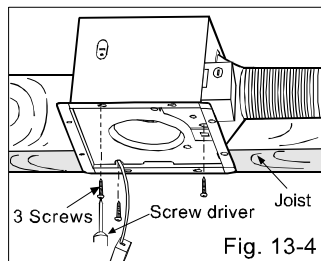
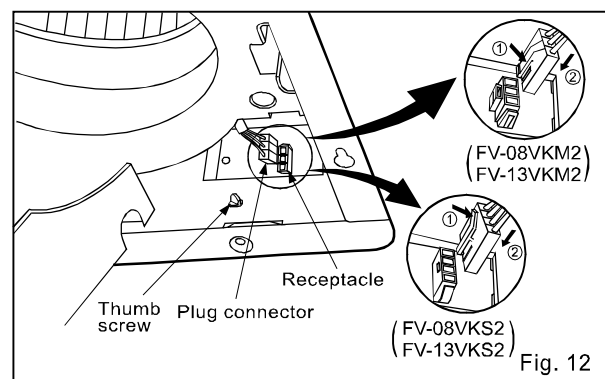

Fig. 13-4
Fig. 12
- Plug connector to receptacle. (Fig. 12)
- Secure the blower (Fig.13-4) and plug connector to receptacle. (Fig. 12)